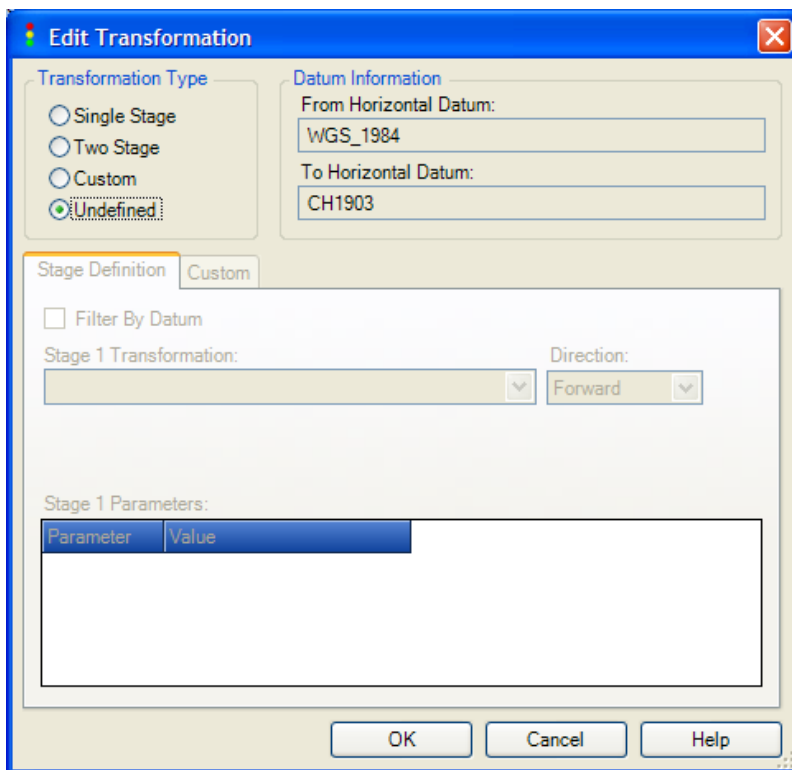

Figure 11-5 The Define Transformation dialog
- You will be presented with the dialog depicted in Figure 11-5.
The Datum Transformations are defined using the dialog of Figure 11-5 (see previous section). The current datums for which the transformation will be defined are displayed in the Datum Information section of the dialog.